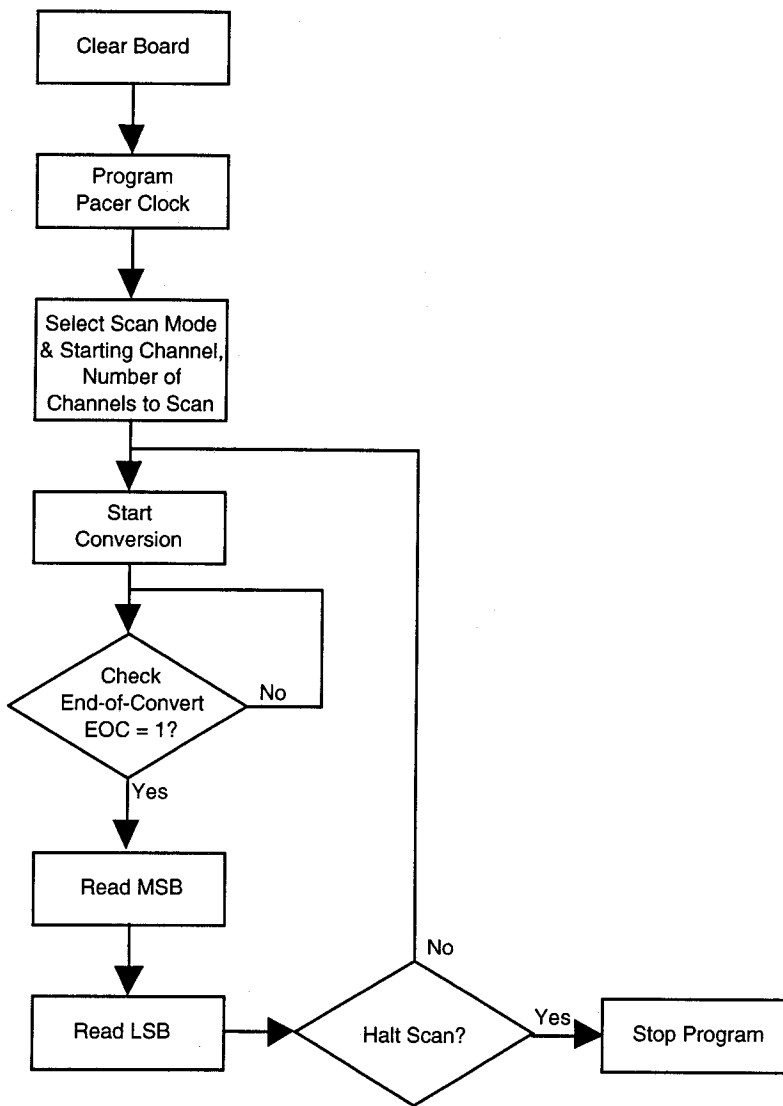

Fig. 4-10 — Scan Flow Diagram
• Scan Flow Diagram (Figure 4-10)